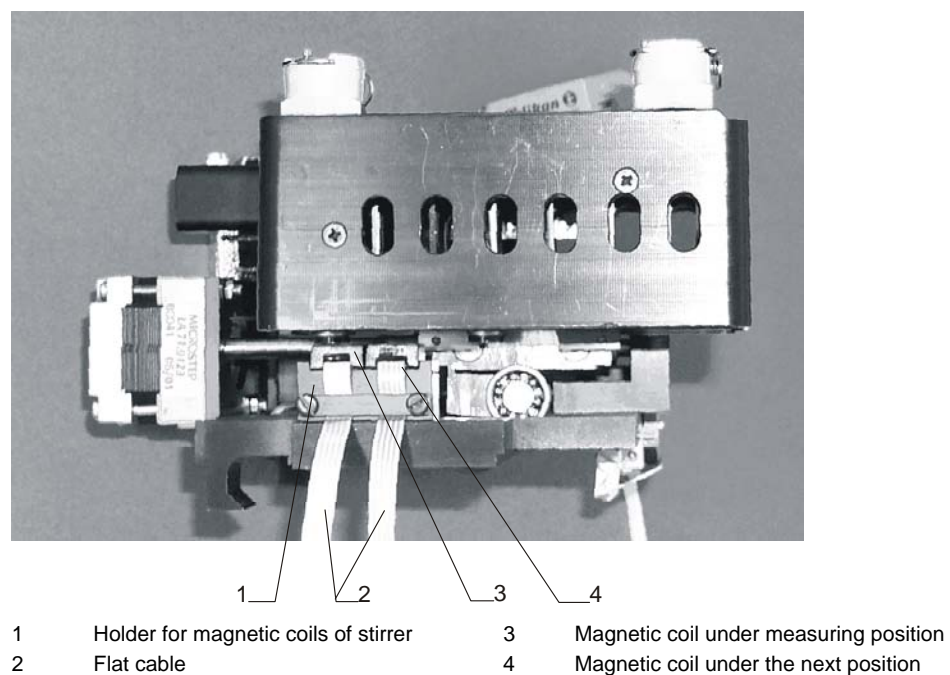
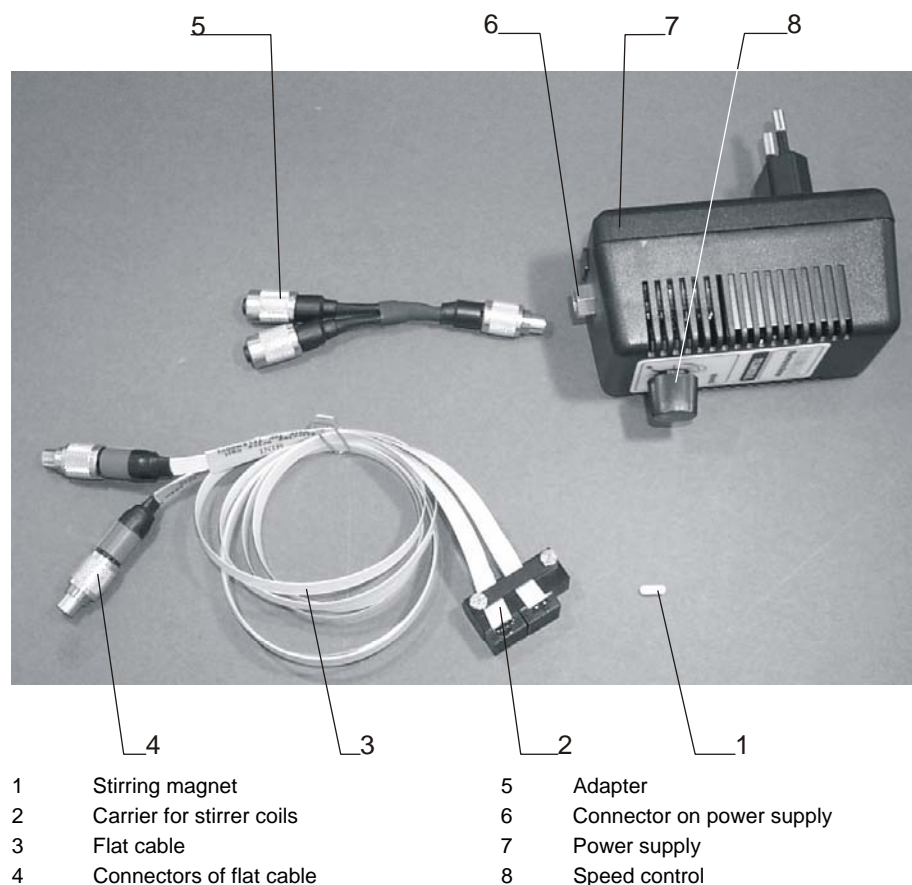

Fig. 10-2 Thermostatted cell holder with magnetic stirrer
Fig. 10-3 Installation of magnetic stirrer
2. Put the carrier (Fig. 10-3 / 1) for the stirrer coils onto the provided place (Fig. 10-2) and fasten it by means of the screws from the bottom.
3. Connect the connectors (Fig. 10-3 / 4) to the adapter (Fig. 10-3 / 5). Plug the adapter plug into the corresponding socket (Fig. 10-3 / 6) of the power supply (Fig. 10-3 / 7).
5. Put the stirring magnets (Fig. 10-3 / 1) into the cells.
6. Connect the power supply (Fig. 10-3 / 7) to a power outlet and turn the speed control knob (Fig. 10-3 / 8) to adjust the stirring speed.
5. Connect the ribbon cable to the power supply (Fig. 10-3 / 7) by means of the adapter (Fig. 10-3 / 5).